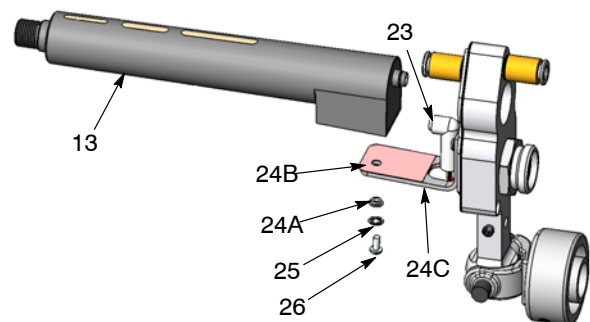

Figure 33 Replacing the Multiplier
4. See Figure 33. Remove the screw (26) and lockwasher (25), then remove the multiplier (13) from the bracket (24C).
5. Disconnect the harness plug (23) from the multiplier.